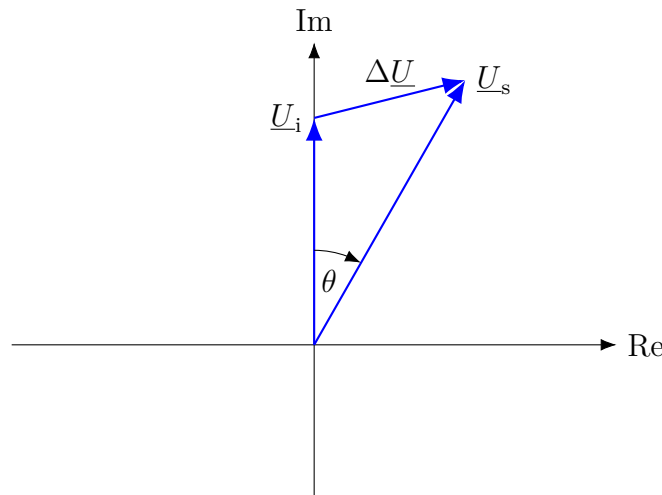

Fig. 3: Phasor diagram of a synchronous machine with scaling 1 kV = 1 cm and 1 kA = 1 cm.
A four-pole synchronous machine operates as a generator in a power plant and supplies 17 MW of active power to the power grid. The grid frequency is 50 Hz. The stator ohmic winding resistance of the synchronous machine is negligible and the excitation current is set to a constant value of 100 A. Fig. 3 shows the phasor diagram of the synchronous machine at a given operating point.
4.2 Determine the short-circuit current I_{sc} and add its phasor \underline{I}_{sc} to Fig. 3. [2 Points]
4.4 Determine the stator current I_s , the phase shift angle φ between stator current and voltage, and add the phasor \underline{I}_s to Fig. 3.